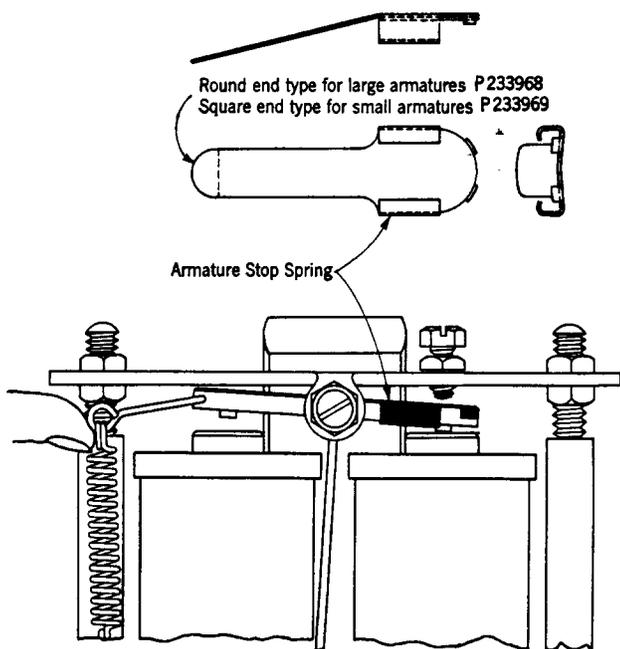

Fig. 3 – Armature Stop Spring
3.01 Armature stop springs which prevent sticking are provided for use on 38, 46, 47, 51, 55, and 65-type ringers (other than loud ringing bells) or where ringers are equipped with chromium-plated armatures or are unbiased (see Fig. 3).